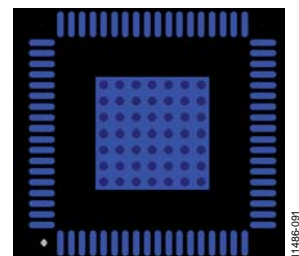

Figure 85. Exposed Pad Layout Example—Top View
- Place vias such that all layers of copper are connected, allowing efficient heat and energy conductivity. See Figure 85, which shows 49 vias arranged in a 7  $\times$  7 grid in the pad area.